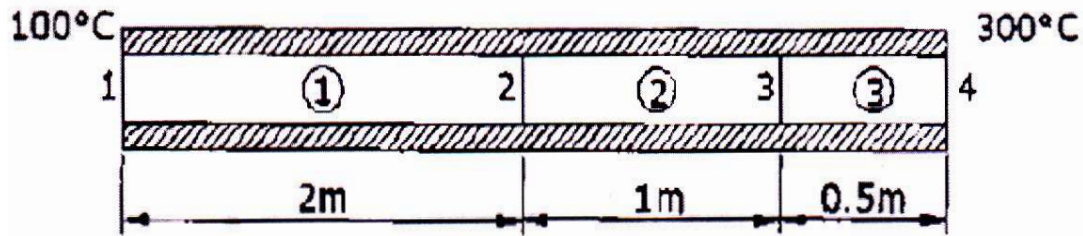

Fig. 4
- b)** For a one dimensional composite bar shown in Fig. 4, determine the interface temperatures. For element 1, let $K_{xx} = 200 \text{ W/m}^\circ\text{C}$; for element 2, let $K_{xx} = 100 \text{ W/m}^\circ\text{C}$; and for element 3, let $K_{xx} = 50 \text{ W/m}^\circ\text{C}$; Let $A = 0.1 \text{ m}^2$. The left end has a constant temperature of 100°C and the right end has a constant temperature of 300°C . [12]